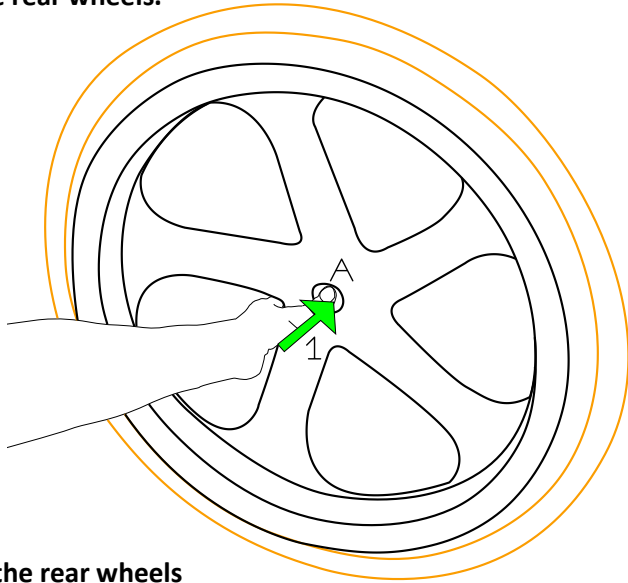

Figure 3.4
- Press the axle release button (Fig 3.4, A) with your thumb and pull the wheel out of the adapter sleeve (Fig 3.4, 1)
- With the other hand, hold the wheel at the spokes around the wheel hub (see Fig 3.4)
- Press the axle release button (Fig 3.4, A) with your thumb and keep it pressed.